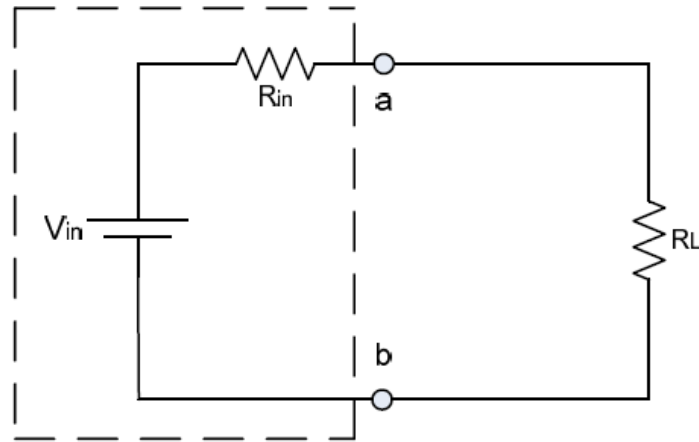

Figure 1.
The maximum power transfer theorem states that when the load resistance is equal to the source's internal resistance, maximum power will be developed in the load. Since most low voltage DC power supplies have a very low internal resistance (10 ohms or less) great difficulty would result in trying to affect this condition under actual laboratory experimentation. If one were to connect a low value resistor across the terminals of a 10 volt supply, high power ratings would be required, and the resulting current would probably cause the supply's current rating to be exceeded. In this experiment, therefore, the student will simulate a higher internal resistance by purposely connecting a high value of resistance in series with the DC voltage supply's terminal. Refer to Figure 1 below. The terminals (a & b) will be considered as the power supply's output voltage terminals. Use a potentiometer as a variable size of load resistance. For various settings of the potentiometer representing  $R_L$ , the load current and load voltage will be measured. The power dissipated by the load resistor can then be calculated. For the condition of  $R_L = R_i$ , the student will verify by measurement that maximum power is developed in the load resistor.
1. Refer to Figure 1, select  $R_{in}$  equal to 1 K $\Omega$  representing the internal resistance of the power supply used and select a 10 K $\Omega$  potentiometer as load resistance  $R_L$ .